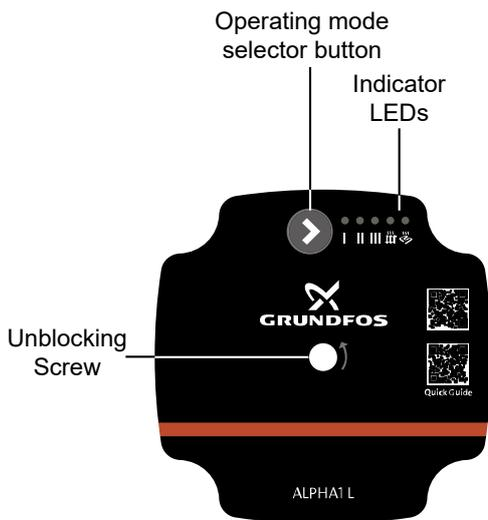
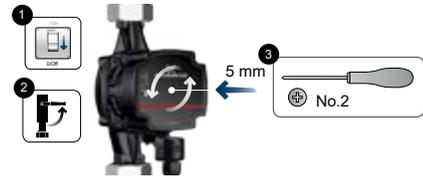

Figure A1-2: Pump control panel
Figure A1-4: Pump fault diagnostics
3. The indicator LEDs on the pump control panel (see Figure A1-2) will illuminate, indicating that the power supply has been switched on and the pump is running.
The pump control panel (see Figure A1-2) features a series of LEDs (refer to Section A1.1.6) which indicate the current operating conditions of the pump. For more detailed information on the pump control modes, please refer to Section A1.1.7.
The pump is fitted with a panel of LEDs located next to the selector button (see Figure A1-2) which indicate either:
- Any fault conditions the pump may be experiencing (refer to Section A1.2 and Figure A1-4).
To set the pump control mode, press the button on the control panel (see Figure A1-2). Every time you press the button, the pump setting is changed. The LEDs will indicate the chosen control mode (see Figure A1-3). A cycle is five button presses.
If the pump has detected one or more faults, the first LED on the pump control panel (see Figure A1-2) switches from green to red, indicating an alarm. When an alarm is active, the LEDs indicate the fault type as defined in Figure A1-4.
If multiple alarms are active at the same time, the LEDs only show the error with the highest priority. The priority is defined by the sequence shown in Figure A1-4.
If the pump is blocked it is necessary to unblock the shaft. The pump unblocking device is accessible from the front of the pump without having to demount the control box. Refer to Figures A1-2 and A1-4.